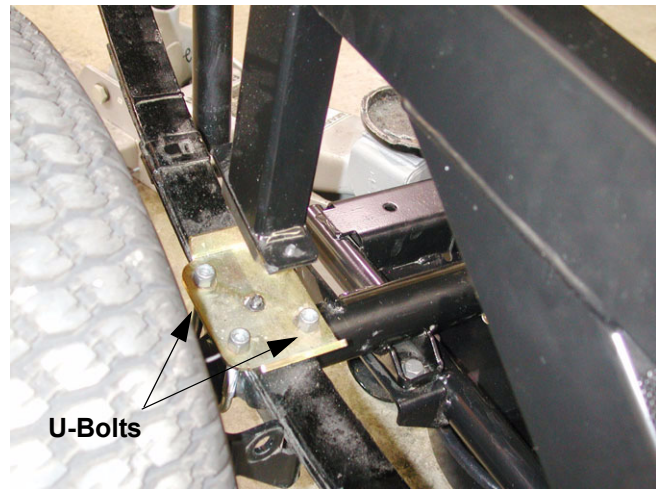

**Figure 7.23**
- 7.23. Lift and safely support the rear of the vehicle. See Figure 7.23.